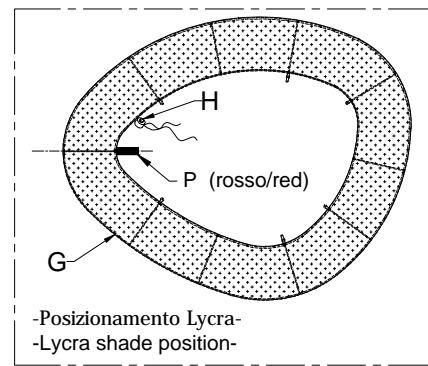

Fig. 5
- Align the red references of lycra (P) on the structure (B) (Fig.5)